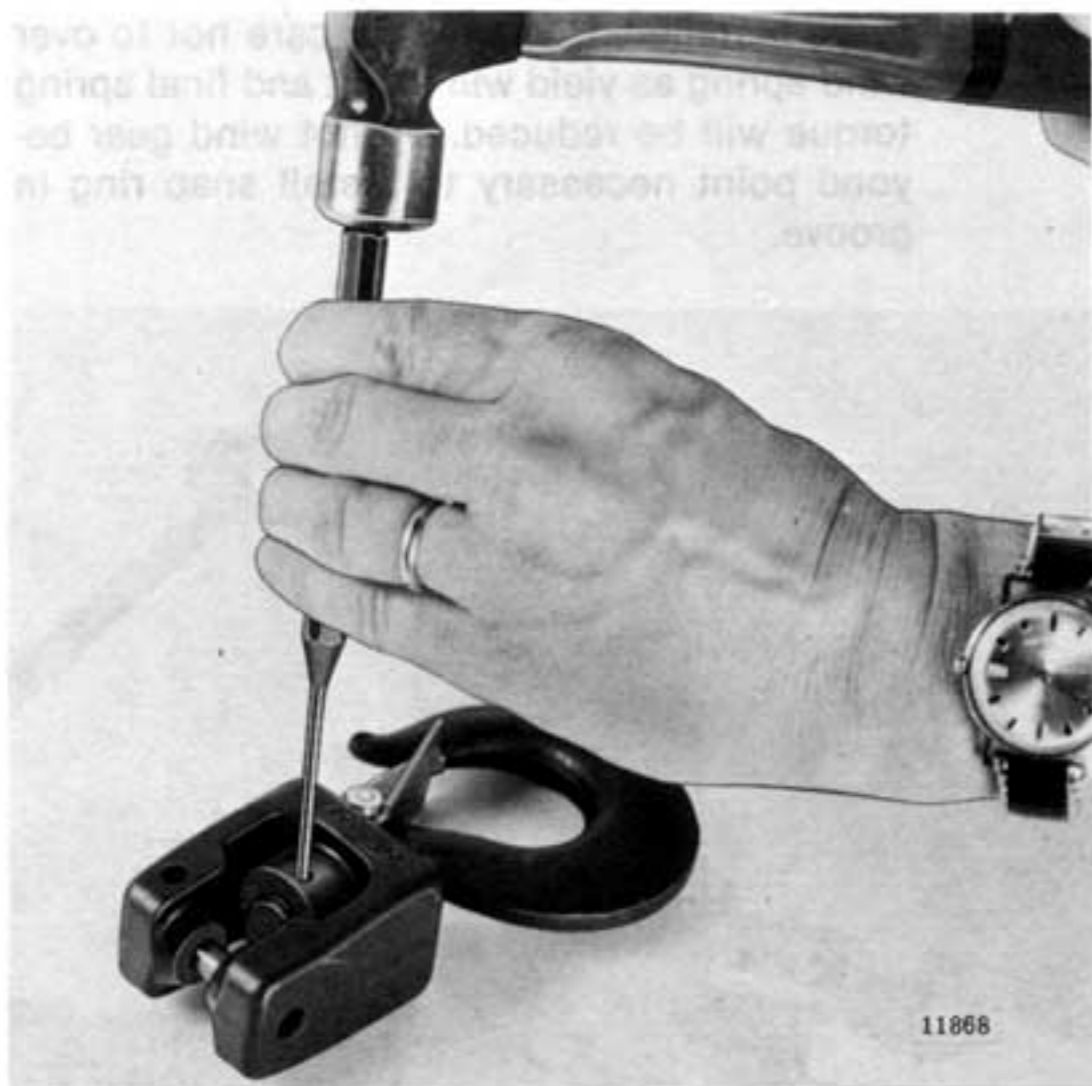

Figure 7-23. Removing Roll Pin Securing Hook Nut to Hook Shank.
- (1) Separate load chain from lower block assembly. Drive out small roll pin securing lower block pin in lower block yoke and push lower block pin from yoke to release chain.
- (2) Unbolt and remove limit actuator(s). On a single line hoist that has a bumper, remove the bumper also.
- (3) Lower blocks are of a pinned construction, permitting replacement of body, thrust bearing, or hook and nut assembly. To disassemble, drive spring pin from hook nut (Figure 7-23). With pin removed, hold hook nut from turning with drift punch and rotate hook to unscrew it from nut. Separate hook, bearing shield, needle bearing and two thrust washers from body. Hook and nut are drilled at assembly and are replaced only as an assembly.